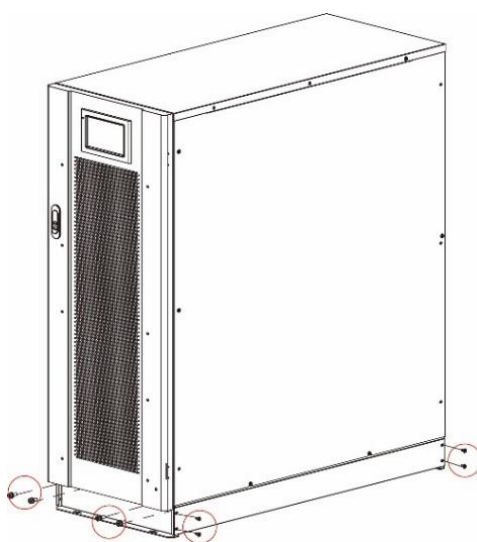

Fig. 3-8 Fix the tightening components on the case
Step 6: secure the components to the case with $8 \times M6$ and $4 \times M12$ screws, as shown in Fig. 3-8.